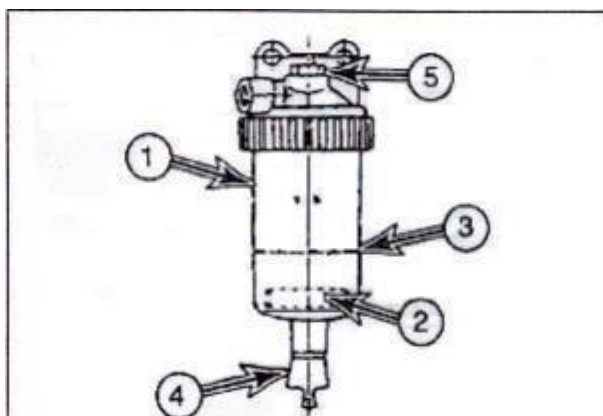

Fig 4-15
1. Open the hood and check the oil-water separator (see Figure 4-15). If there is water in the container ① (Figure 4-15), the red float will float.
2. Release the water when it floats to the warning line ⑧ (Figure 4-15).
3. Loosen the drain valve ④ at the bottom of the container (Figure 4-15).
5. The plug ⑤ (Figure 4-15) on the top of the oil-water separator cannot be reused. If the plug is loose, replace it and tighten it.